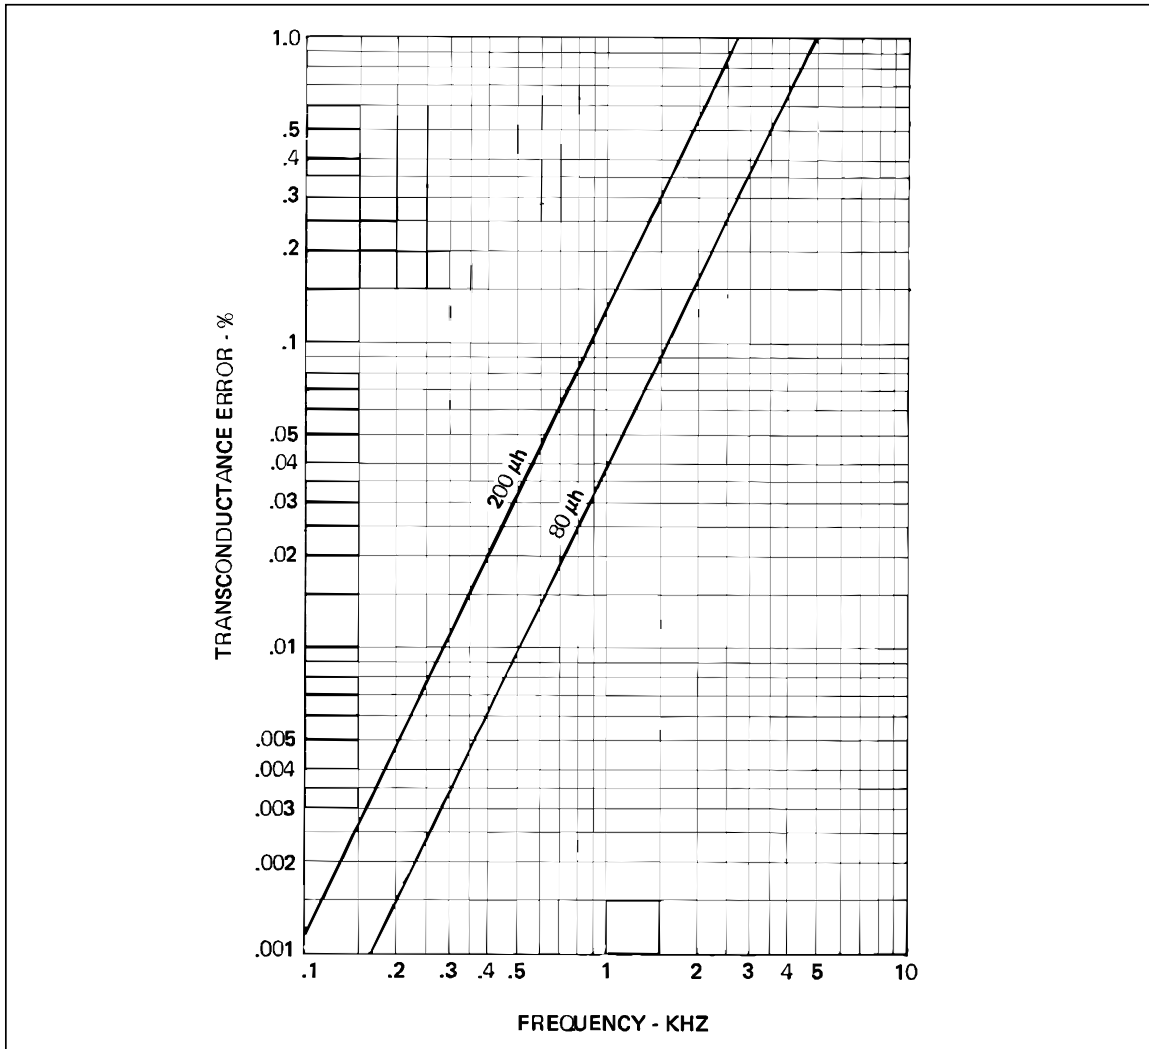

Figure 2-3. Typical Transconductance Error for Inductive Loads
4. When driving an ac current through an inductive load the 5220A will exhibit increased distortion and transconductance error. This is due to a reduction in loop gain caused by the inductance. The graph in Figure 2-3 illustrates the typical transconductance error, as a function of frequency, for two different inductive load values.